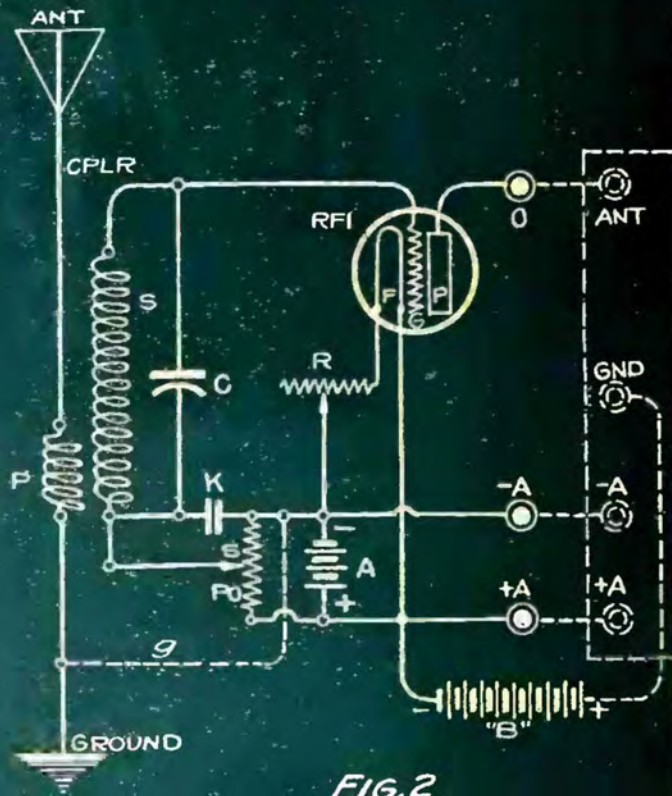
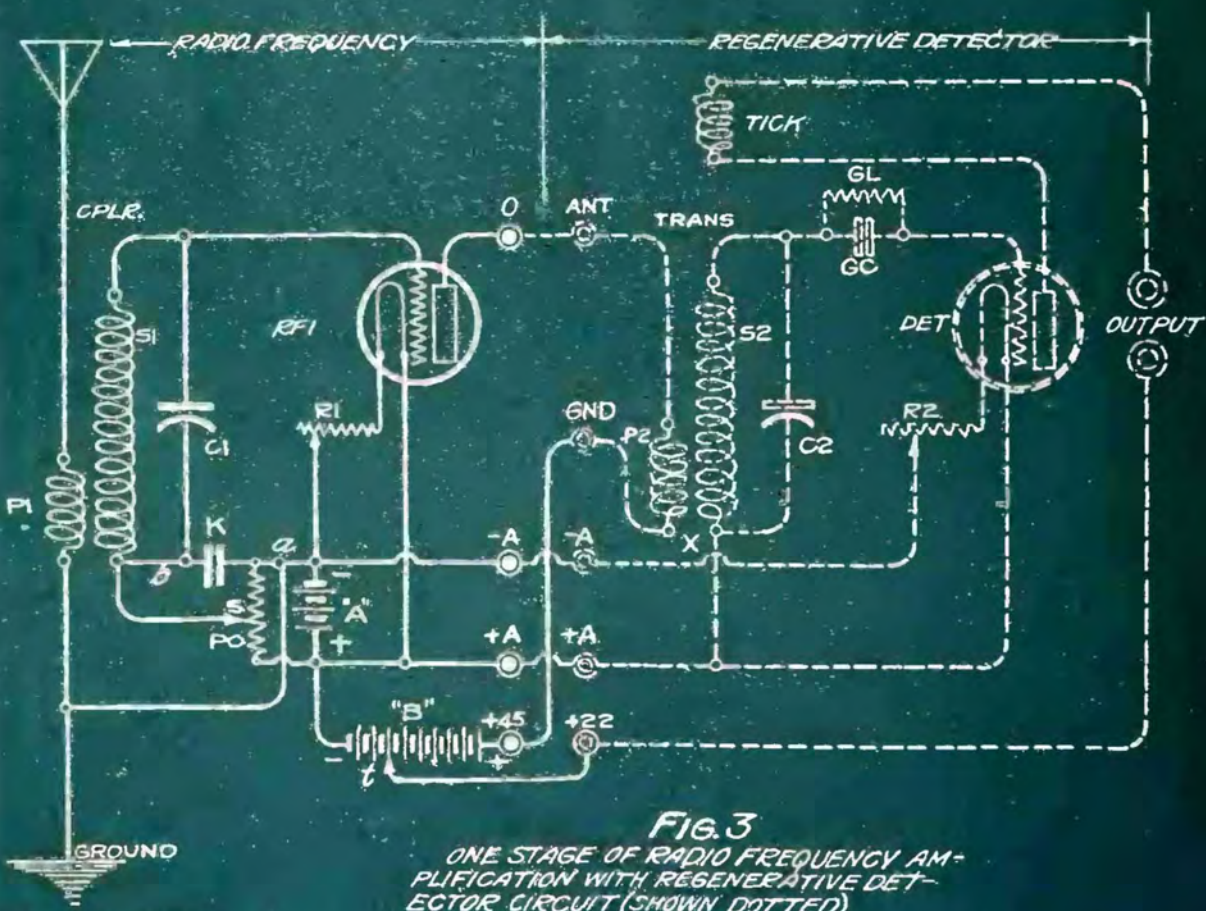

FIG. 2
FIG. 3
By means of the coupler or air-core transformer (CPLR) in Fig. 2, the first radio frequency stage can be tuned to the desired wavelength in the usual manner, thus attaining selectivity from the start. The primary coil (P) is connected to the antenna (ANT) at one end and to the ground at the other, only a few turns of wire being employed in this coil so that the lower wavelengths will pass through as easily as the long waves. By placing (P) in inductive relation to the secondary coil (S), radio frequency currents are induced in the
THE application of one stage of radio frequency amplifications to an existing regenerative receiver is shown more clearly in the completed diagram of Fig. 3. In order to make a more prominent distinction between the radio frequency circuit and the regenerative detector circuit to which the radio stage has been added, the radio frequency amplifier circuit is drawn in heavy full lines while the original detector circuit is drawn in dotted lines. The radio frequency circuit is as before with its plate output post at (O), the "B" battery connection posts at (+B), and the "A" battery leads at (-A) and (+A). There are now two wavelength tuning controls, the radio frequency condenser (C1) and the original detector condenser (C2) which of course adds greatly to the selectivity of the circuits. Audio amplifying stages can be added at the detector output marked "Phones" but they are not shown as they would add needlessly to the complication in describing the radio frequency end of the circuit.
cases to connect the outer end of the grid leak to the (+A) line instead of leaving it in the position shown by Fig. 3. However, nothing of this sort is required in Fig. 2 where the plate and grid circuits are effectually separated by the air space between coils.
While the detector tube (DET) is shown connected up as a non-regenerative yet no changes are introduced into the circuit if it is supplied with a tickler coil mounted in inductive relation to the secondary coil (S2), as shown in the right hand dotted portion of Fig. 3. This introduces another control, but if a fixed untuned transformer is used at (RFT2) in place of a tuned transformer, we will still have three controls and the set can be easily tuned in and operated. With a movable tickler coil, the detector tube will no longer be so critical to filament current control which will simplify matters by allowing the use of fixed resistances at all points in place of the rheostats. Three Amperites (one at each tube) will entirely eliminate rheostatic control, and in this way the introduction of the tickler adjustment will effect an actual saving in the number of controls.